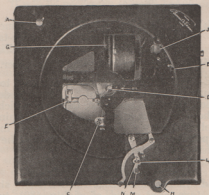

Fig. 6
- (h) When proper adjustment is attained, again remove Reproducer and turn-table, as above, and tighten set screw (L, Fig. 6).
- (a) Turn speed adjusting knob (A, Fig. 6) to left as far as it will go.
- B (Fig. 6) Oil cup (fill with oil).
- C (Fig. 6) Oil cup (fill with oil).
- D (Fig. 6) Upper spindle bearing (oil freely).
- E (Fig. 6) Governor frictions (1 or 2 drops on each).
- G (Fig. 6) Oil tube to spring sleeve (oil freely).
- H (Fig. 6) Operating handle bearing (3 or 4 drops).